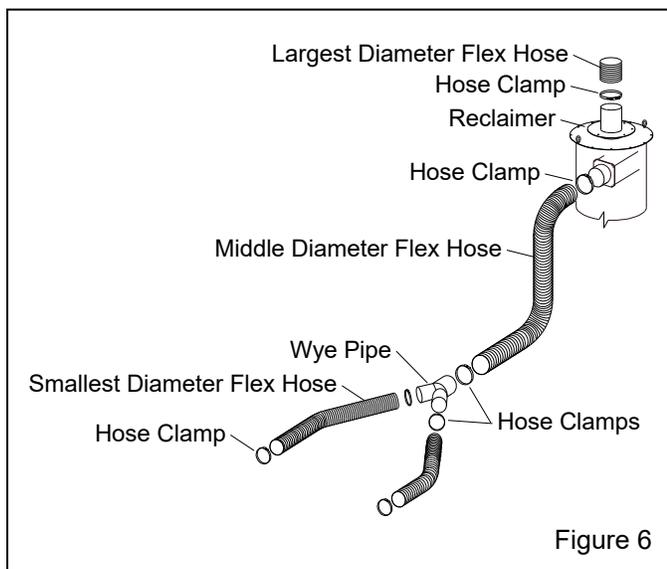

Figure 6
2.4 Connect Conveying (flex) Hoses – Figure 6